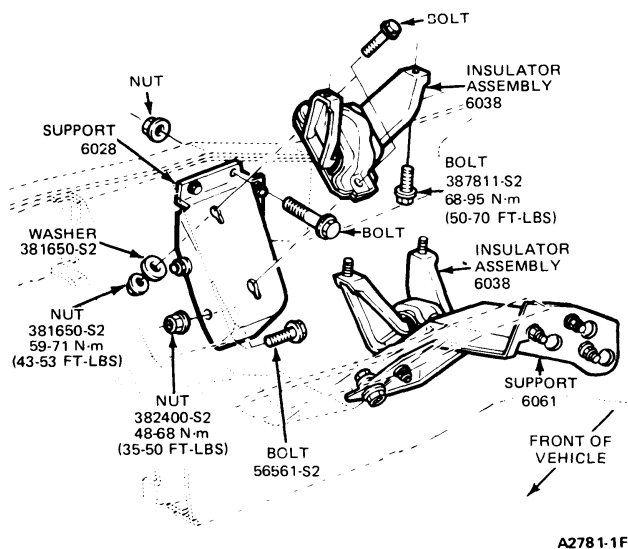

FIG. 9 Front Supports and Insulators—E-150—E-350
3. Remove insulator to engine bolts and alternator splash shield. Remove the insulators (Fig. 9).
2. Install insulators to engine using new bolts and tighten to specifications (Fig. 9).